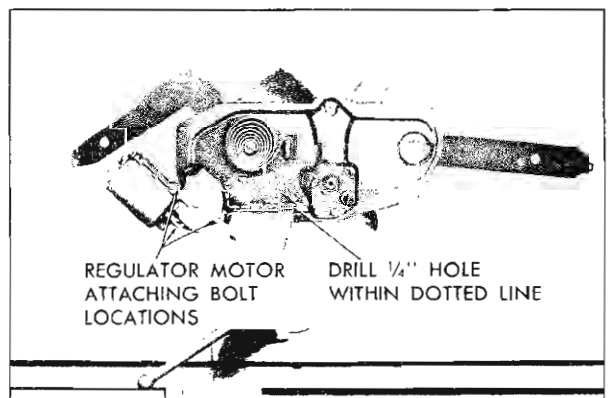

Fig. 5-12 Tail Gate Window Regulator
2. Place regulator assembly in a vise as shown in Fig. 5-12).
3. Drill a  $\frac{1}{4}$  inch hole through regulator backplate and main sector within area indicated by dotted lines (Fig. 5-12).
5. Remove three (3) motor attaching bolts, at locations shown in Fig. 5-12 and remove motor assembly from regulator.